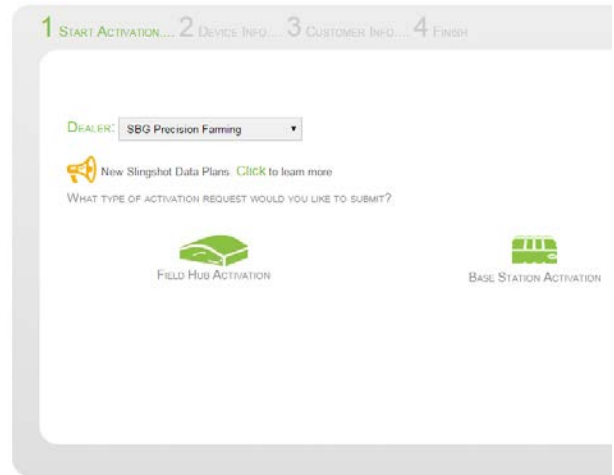

Figure 3 Step 1 activation procedure Slingshot field hub.
4. A new wizard (Start activation) is now open, select *Field Hub Activation* (Figure 3).